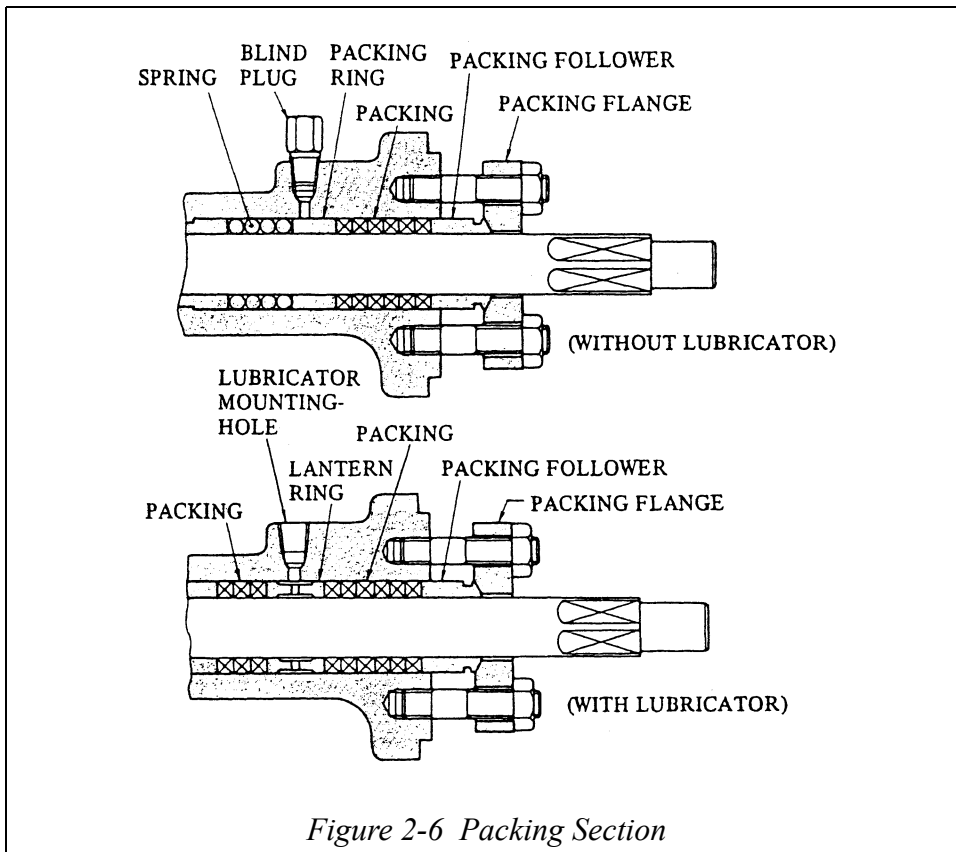

Figure 2-6 Packing Section
- (4) Install the gland parts. For packing pay attention to whether the valve is with or without a lubricator. For assembly, see Figure 2-6.